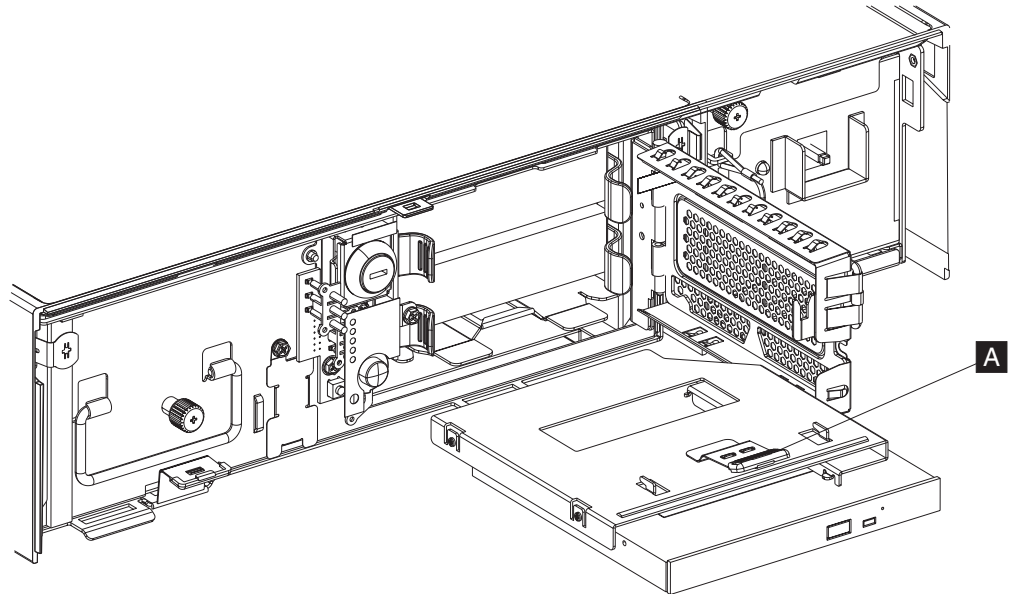

Figure 26. Removing an optical drive
3. With your hand facing upward, grip the bottom of the optical drive and its bracket with your fingers while pushing down on the bracket lock tab (**A** in Figure 26) to disengage it from its window.